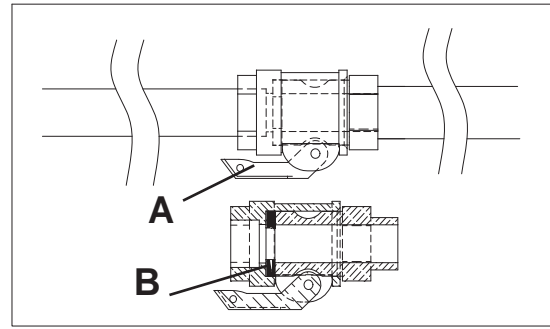
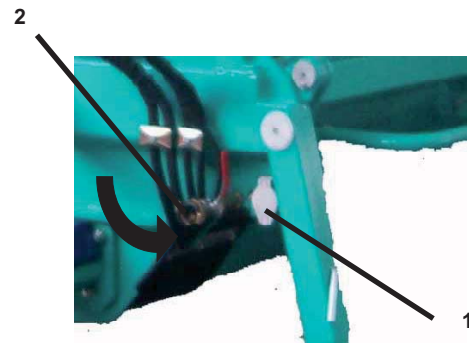

Fig. 5a
Fig. 6
Properly tighten the cam-lock couplings (Fig. 5a/A), making sure to fit the gaskets and connect the sprayer to the pipe ends.
If present, after correctly positioning it on the hopper, connect the vibrating screen plug to the special socket on the machine. If present (always present in the version for self-levelling material) connect the remote control to the special socket (Fig. 6, Ref. 1).
Take the material pipes, make sure they are in good condition, the connections are integral and that the relevant gaskets are present, and connect them to the delivery manifold and the sprayer. Make sure the cam levers (A) of the connections are properly secured and that the gasket (B) is present as shown in Fig. 5a. Close the sprayer air cock (Fig. 7, Ref. 1). Open the air to machine cock (Fig. 6, Ref. 2).